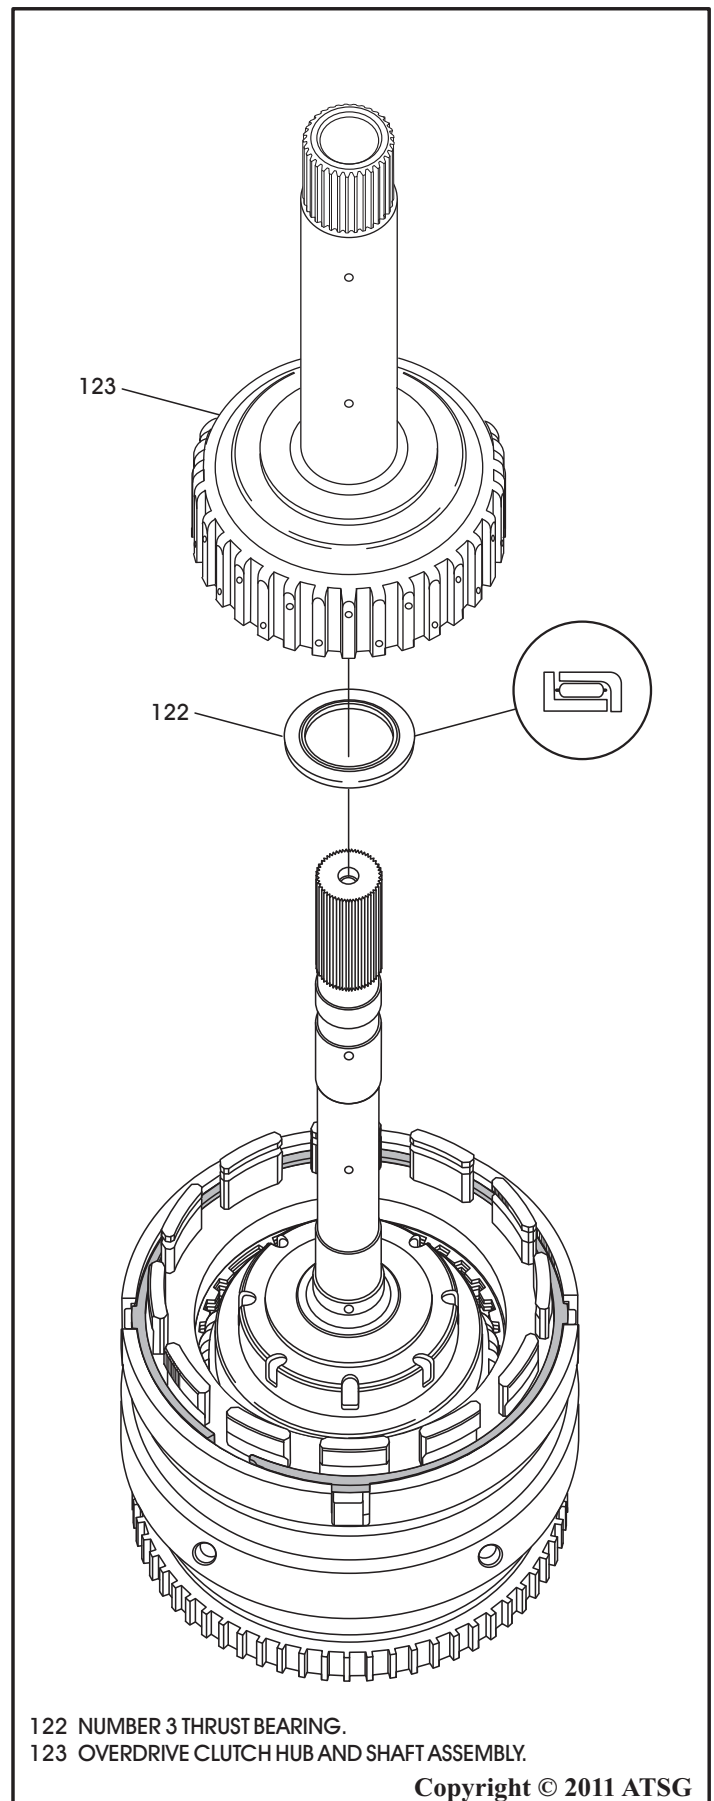

Figure 105
44. Install the number 3 thrust bearing into the overdrive clutch hub and shaft, in the direction shown in Figure 105, and retain with TransJel®.